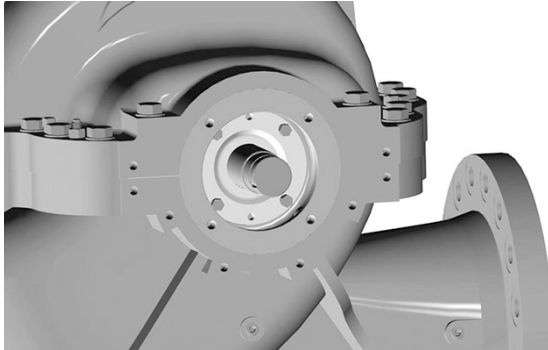

Figure 39: Seal end cover (seal gland) fastened to seal body (stuffing box)
4. Slide the seal end cover, over the shaft, being careful that the head and the seat of the mechanical seal does not get damaged. Then press the seal end cover with the O-ring into the seal body and tighten the capscrews. (see Figure 39)